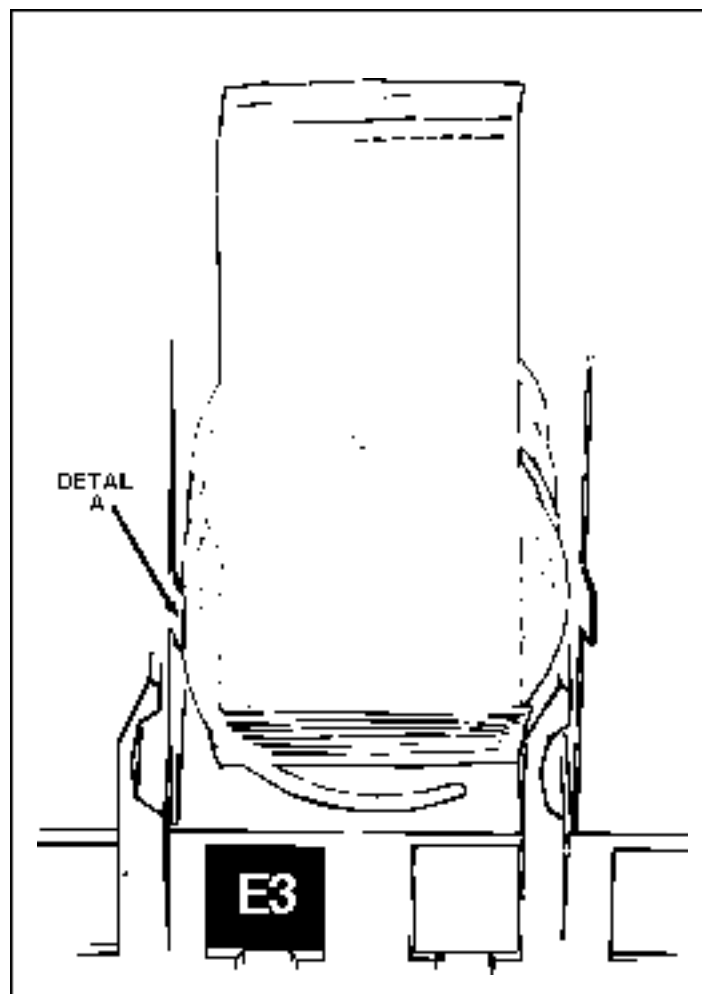

Figure 5. Placement of product on main product candy shelves and front end of spiral.
6. **Loading Main Product Candy Shelves.** The 8-selection (candy type) shelves are loaded similar to the 4-selection shelves, except that, the bottom of the product sits on the shelf in front of the spiral wire (Figure 5.) that rests on the shelf. These products must also fit properly in the spiral space. **Do not force product into spiral.** These spirals are removed and installed the same as the large spiral (Figure 3.), except that, the front end position is different (approximately 5 o'clock) (Figure 5.) and the front left side of
the spiral must be behind the small tab located on the left side of the product space side wall. (Figure 5., Detail A)